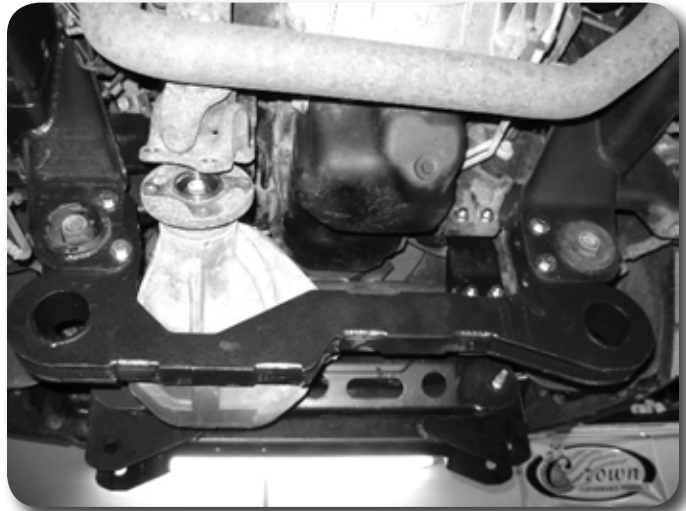

Figure 25
42. Install the new rear crossmember. Attach the crossmember to the original 4 crossmember mounting holes. Fasten with 1/2" x 3" bolts nuts and washers. Run the bolt from back to front. It may be necessary to slightly clearance the holes in the frame for the larger than factory bolts, do not tighten at this time **Figure 25.**